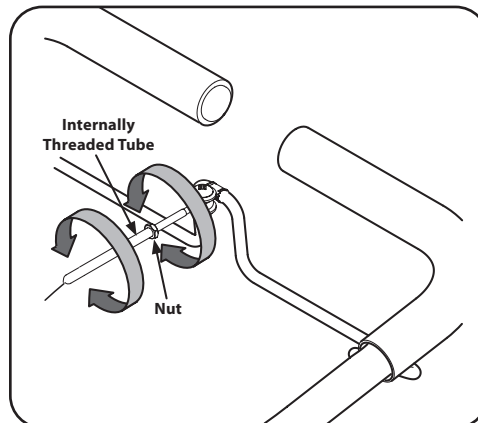

Figure 2-11
6. Carefully engage the clutch by lifting the clutch control bail against the handle. The wheels should spin. If the wheels do not spin with the tiller in forward, adjust by unthreading the tube at the end of the cable a few turns counter-clockwise, when standing in the operator's position. See Figure 2-11.